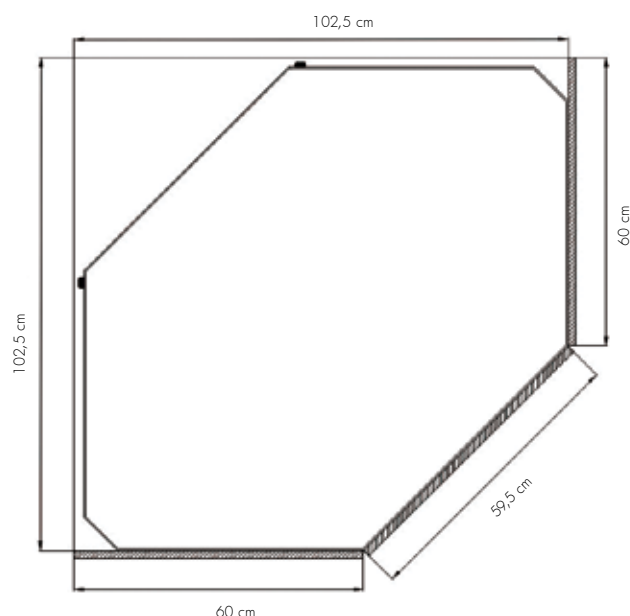

Fig 9
8.3. Integration of corner Fridge cabinet (see fig 9)
8.5. Fitting furniture sides (see figure 9)